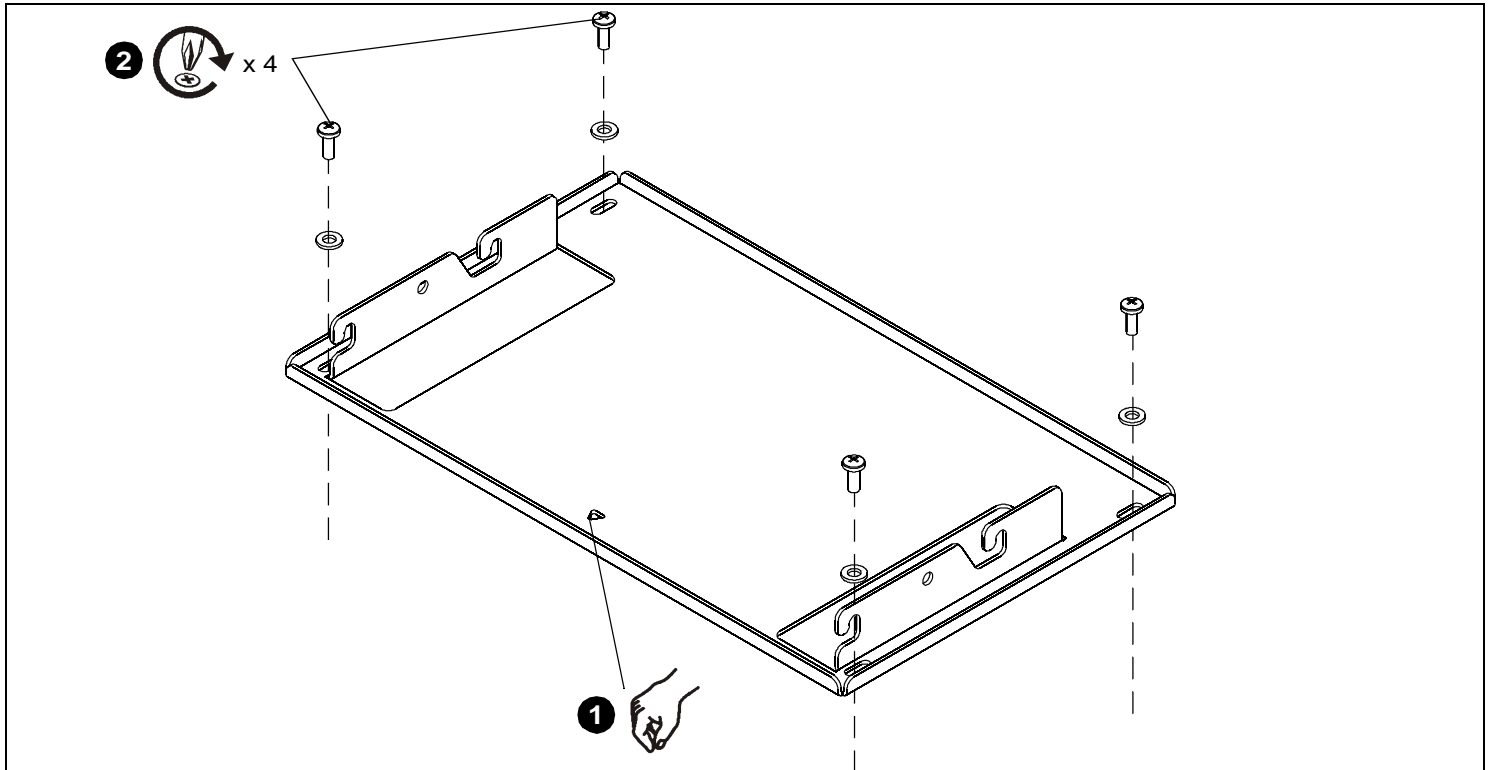

Figure 1:
1. Lower custom HB bracket onto top of projector. Ensure that triangle in bracket points towards front of projector. (See Figure 1)
2. Attach HB bracket to projector using four M6 x 16mm button head screws and four M6 flat washers through each corner of the HB bracket. (See Figure 1)